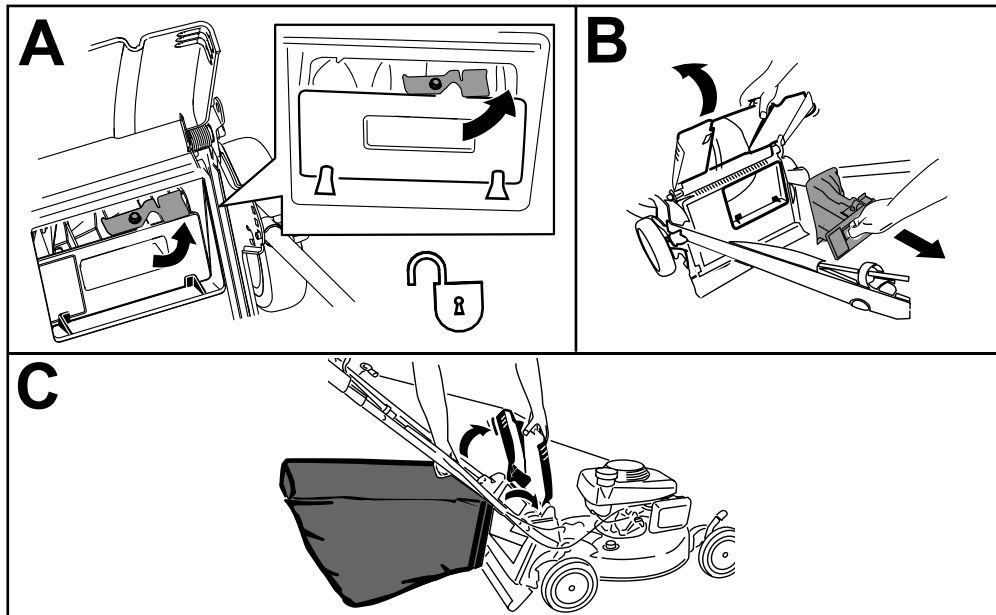

Figure 17
**Note:** To unlock the rear plug, rotate the lever on the plug to the right (Figure 17).
1. Raise and hold up the rear deflector and unlock the rear plug (A of Figure 17).
2. Pull out the rear plug (B of Figure 17).
3. Hang the upper front edge of the bag from the grass-bag pins on the notches of the handle brackets (C of Figure 17).